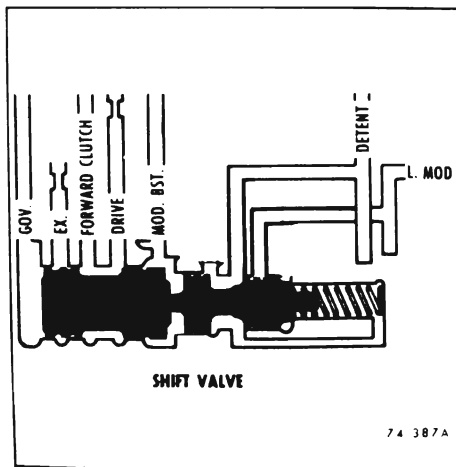

Figure 74-15 - Shift Valve and Shift Control Valve
g. Shift Valve and Shift Control Valve (See Figure 74-15)